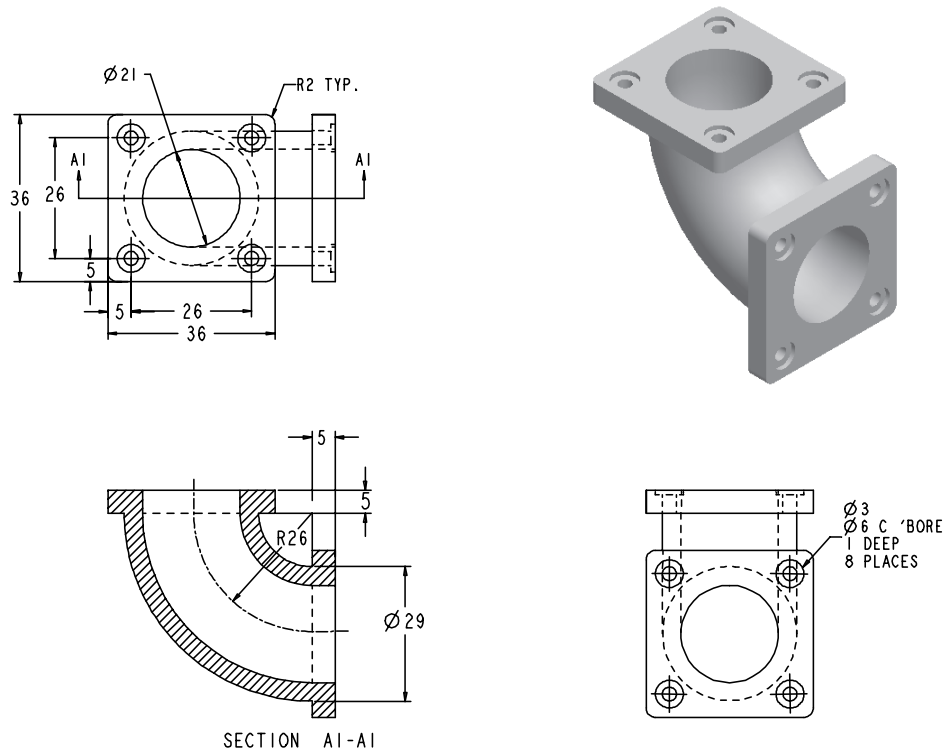

Figure 7-86 Top, front, right-side, and isometric views of the model.
In this tutorial, you will create the model shown in Figure 7-86. This figure also shows the sectioned front view, top view, and right-side view of the solid model with dimensions.
- Examine the model and determine the number of features in it. The model is composed of six features, refer to Figure 7-86.
Now, you need to specify the placement parameters for the hole. For this purpose, refer to Figure 7-86 and look for the dimensions that can help in placing the hole. The two edges are used to dimension the hole.